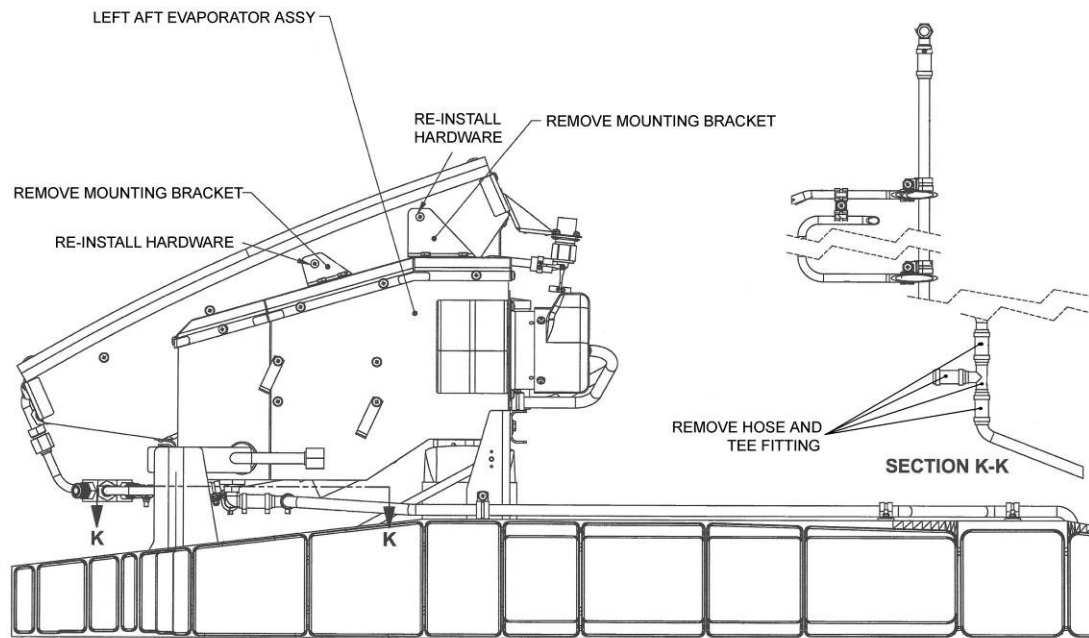

Figure 10: View of Left Aft Evaporator Assy Looking Inboard from LH Side
2. Remove left aft evaporator assembly and discard. Retain all existing water drain lines and mounting hardware from both evaporators, see Figure 10.
3. Remove and discard left aft evaporator mounting brackets. Re-install screws into condenser housing, see Figure 10.
4. Remove and discard the following components, see Figures 10, 11 & 12.
7. Install ES48150-2 Drain Hose between existing RH Aft Evap drain tubing and existing outboard aluminum drain tube, as required, see Figure 10.